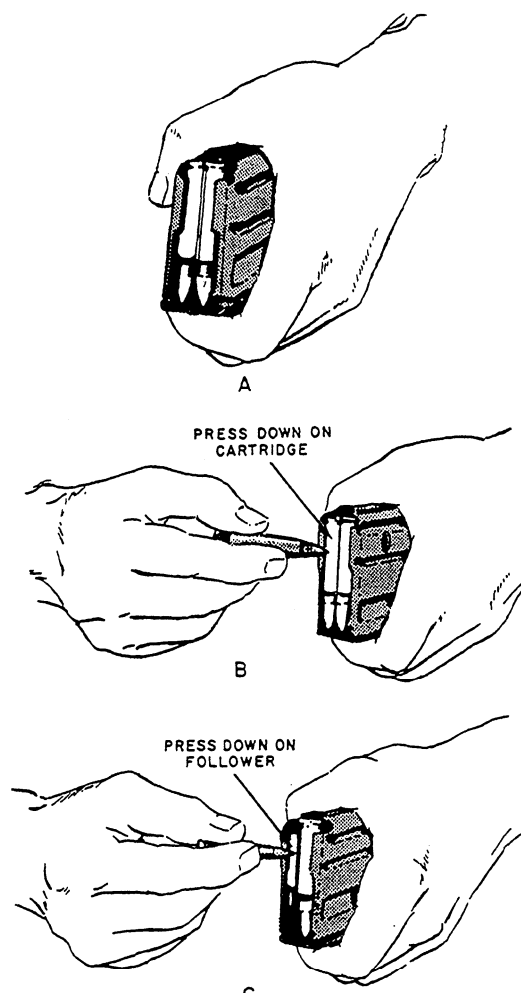

Figure 3-22.—Unloading the magazine with the nose of a cartridge.
1. Hold the magazine in your left hand with the open end away from your body and with the nose of the cartridge down (fig. 3-22, view A).
2. Depress the center of the second round in the magazine using the nose of the cartridge, allowing the first round to drop out of the magazine (fig. 3-22, view B). Repeat this procedure until you remove all the rounds from the magazine except the last one.
3. Use the nose of the cartridge to depress the follower to remove the last round, allowing the last round to drop out of the magazine (fig. 3-22, view C).